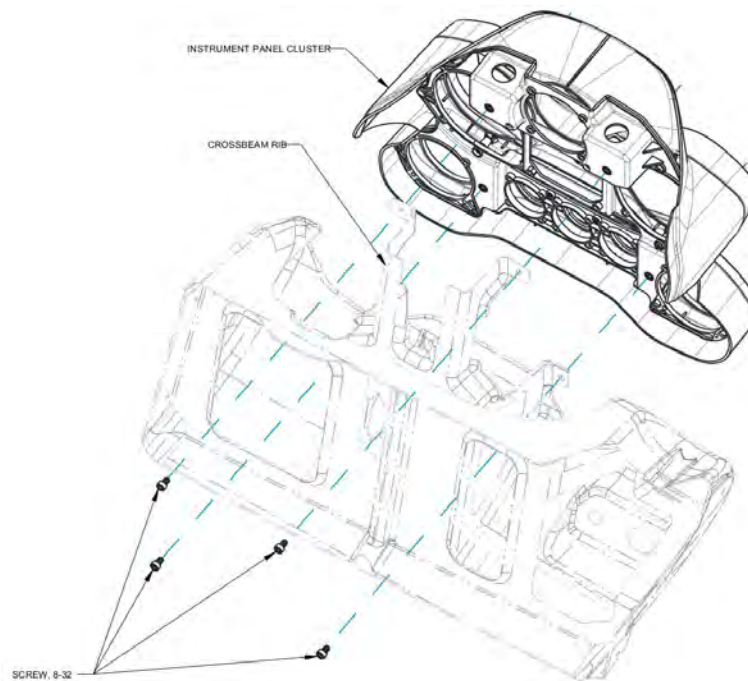

FIGURE 13-8
2. Remove four #8-32 cluster attachment screws. See Figure 13-8.
3. Secure instrument cluster to aircraft crossbeam rib with four #8-32 attachment screws. Apply small amount of LOCTITE 222. See Figure 13-8.